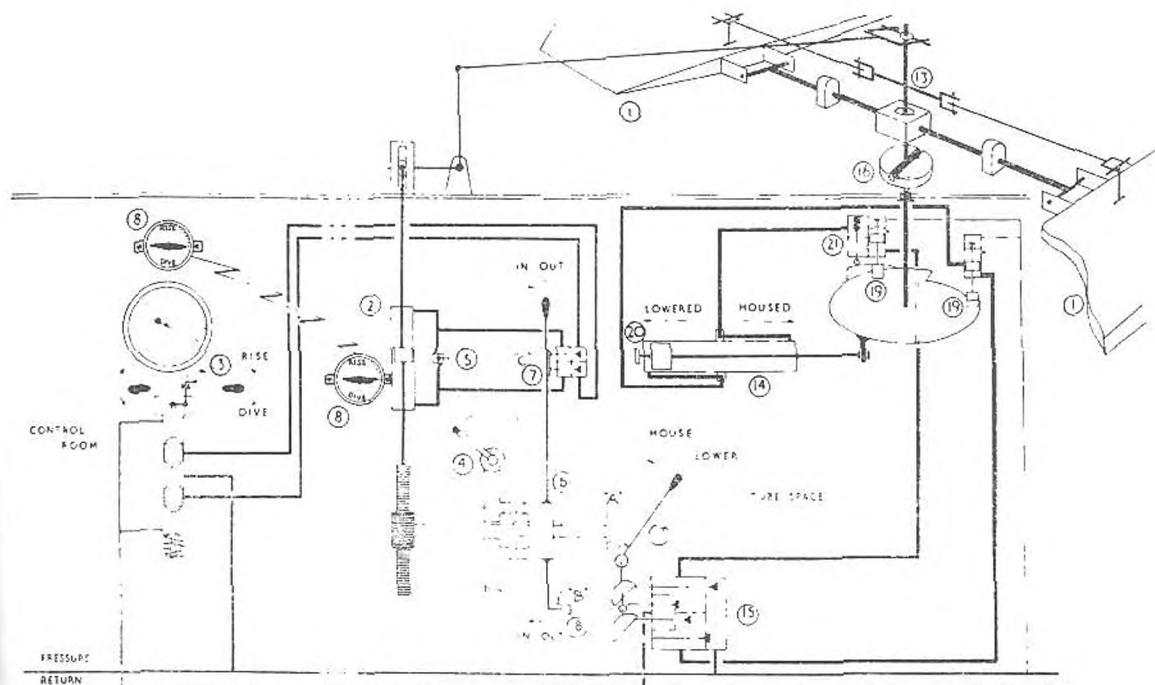

Fig. 31. Toggle type forward hydroplanes
- (13) TOGGLE (Fig. 31). To draw the planes up to the side of the casing. When rotated the toggle acts as a double crank.
- (14) HOUSING CYLINDER (oscillating). To rotate the toggle.
- (15) CONTROL VALVES (poppet type). To work the housing cylinder.
- (16) TONGUE AND GROOVE. To enable the planes to be tilted *after* the toggle has been rotated to the lowered position, that is, with the tongue and groove fore and aft.
- (17) INTERLOCK (A). To prevent housing when planes are tilted. Lever cannot be put to house until the planes are amidships.
- (18) INTERLOCK (B). To prevent power tilting when planes are housed. Hydraulic pressure is shut off from the tilting cylinder (handgear clutch in) *before* the lever can be put to house.
- (19) STOPS (housed and lowered). To secure the planes in either the fully housed or fully lowered position. In the event of failure of telemotor pressure, the planes will remain fully housed or fully lowered.
- (20) STOP (housing cylinder). To prevent toggle revolving past the fully lowered position should the "lowered stop" fail to engage.
- (21) GAG VALVE. To slow down the housing of the planes as the toggle approaches the fully housed position. The toggle will tend to speed up when it is in the fore and aft position owing to a progressive decrease in pull on the connecting rods and full leverage on the toggle arms.